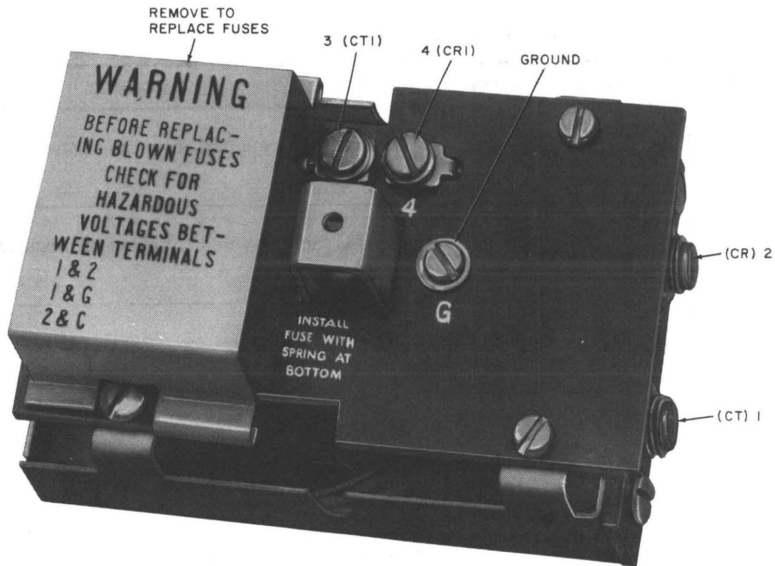

Fig. 2—34A Voice Coupler
**3.01** Select a location close to the CP music or information source and mount the 34A voice coupler (Fig. 2). One 34A voice coupler will accommodate all the 451B KTUs in a system.